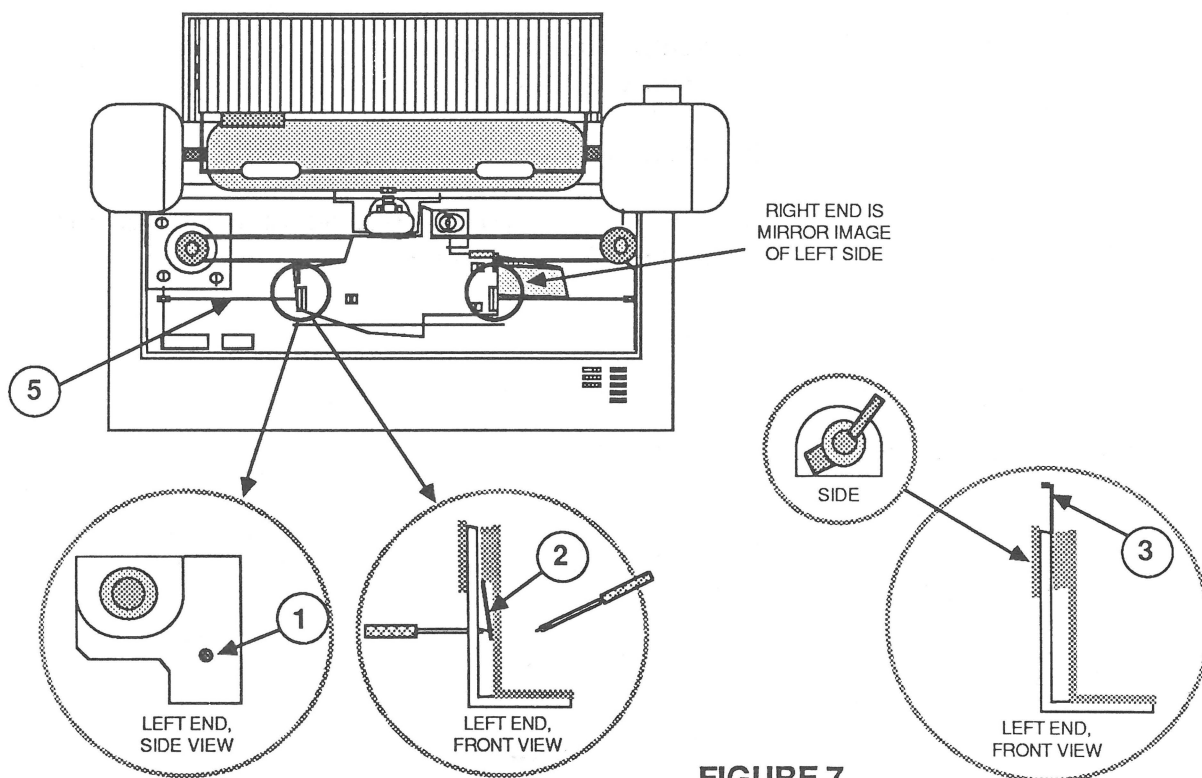

FIGURE 7
4. Locate the holes on the sides of the carrier assembly (Figure 7, #1).
5. Gently insert a jeweler's flathead screwdriver into the hole (Figure 7, #1). The black catch will come out (Figure 7, #2). Gently pry the catch upward at a slight angle with another jeweler's flathead screwdriver.
6. Move the small catch to the top (Figure 7, #3). Gently pull the plastic piece straight out.
10. Slowly lift the entire plate up. If the ribbon wire (Figure 7, #5) comes with it, repeat step 9. The gears are located under the plate.